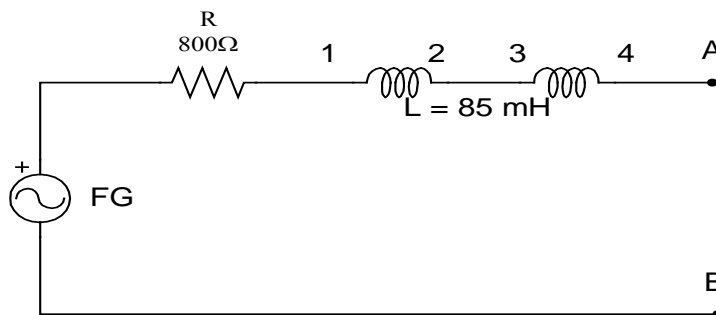

Figure 1 - Practical Voltage Source
Assume a load is connected between terminals A and B in the circuit shown in Figure 1. Maximum power is to be transferred from the source to the load. Utilizing Mathcad, determine the following:
1. Connect the circuit shown in Figure 1. This circuit will be used as a practical voltage source.